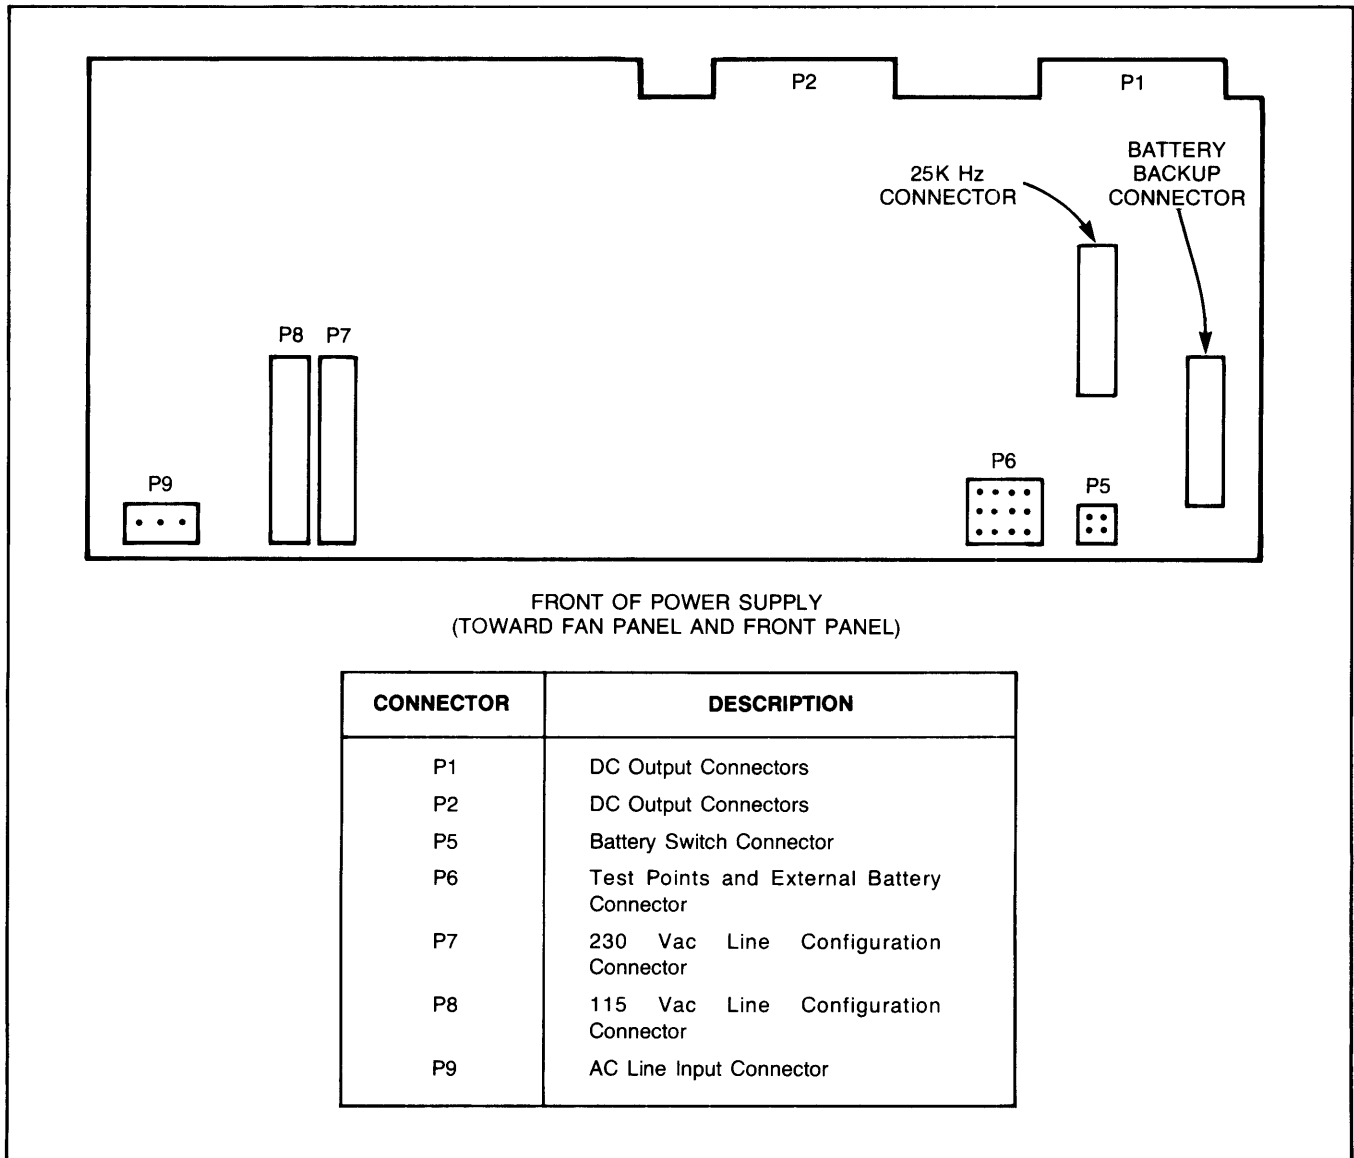

Figure 2-1. Power Supply Connector Diagram
- b. Verify that the AC line configuration/fan power plug is plugged into the correct connector on the power supply. Refer to Figure 2-1.